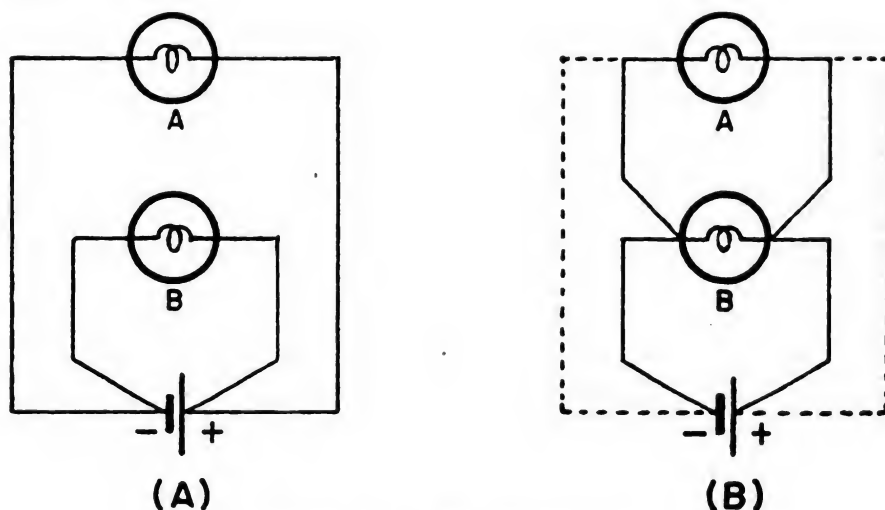

Figure 12.—Parallel circuit.
In (A) of figure 12, you have an illustration of two lamps connected in a PARALLEL CIRCUIT. In (B) of figure 12, you also have a parallel circuit. But the connections from device A are brought to device B. This results in a saving of wire.